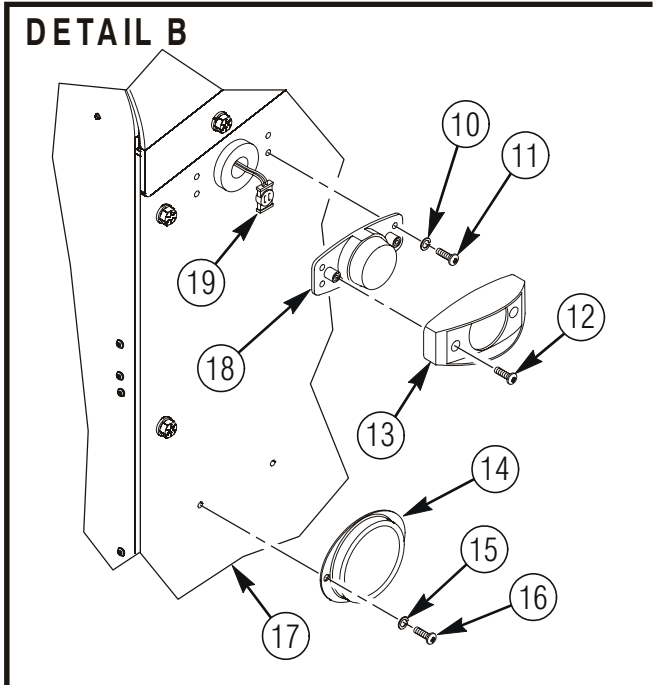

Figure 8.
- H. Install 6433309-01M1 or 6433309-200M1 left side access panel assembly (3) and secure with three 4397000-060 capscrews (9) and 4397004-008 lockwashers (8) as shown in figure 8. Tighten capscrews (9) to 37 lb-ft.
- I. Install 6433308-01M1 or 6433308-200M1 right side access panel assembly (22) and secure with three 4397000-060 capscrews (20) and 4397004-008 lockwashers (21) as shown in figure 8. Tighten capscrews (20) to 37 lb-ft.
- J. Install ladder and rail assembly (4) and secure with sixteen 4397000-060 capscrews (6) and 4397004-008 lockwashers (5) as shown in figure 8. Tighten capscrews (6) to 37 lb-ft.
1. Install EE34609 reflector (25) on left lower side panel assembly (7) and secure with two 4397012-074 screws (24) and 4397004-005 lockwashers (23) as shown in figure 8. Tighten screws (24) to 59 lb-in.
2. Connect wiring harness connector (29) to lamp base assembly (28). Ensure positive to positive and negative to negative installation. Refer to figure 8.
3. Install lamp base assembly (28) on left lower side panel assembly (7) and secure with four 4397012-076 screws (1) and 4397004-005 lockwashers (2) as shown in figure 8. Tighten screws (1) to 59 lb-in.
4. Install lamp cover (27) and secure with two screws (26) as shown in figure 8.
5. Install EE34609 reflector (14) on right lower side panel assembly (17) and secure with two 4397012-074 screws (16) and 4397004-005 lockwashers (15) as shown in figure 8. Tighten screws (16) to 59 lb-in.
6. Connect wiring harness connector (19) to lamp base assembly (18). Ensure positive to positive and negative to negative installation. Refer to figure 8.
7. Install lamp base assembly (18) on right lower side panel assembly (17) and secure with four 4397012-076 screws (11) and 4397004-005 lockwashers (10) as shown in figure 8. Tighten screws (11) to 59 lb-in.
8. Install lamp cover (13) and secure with two screws (12) as shown in figure 8.